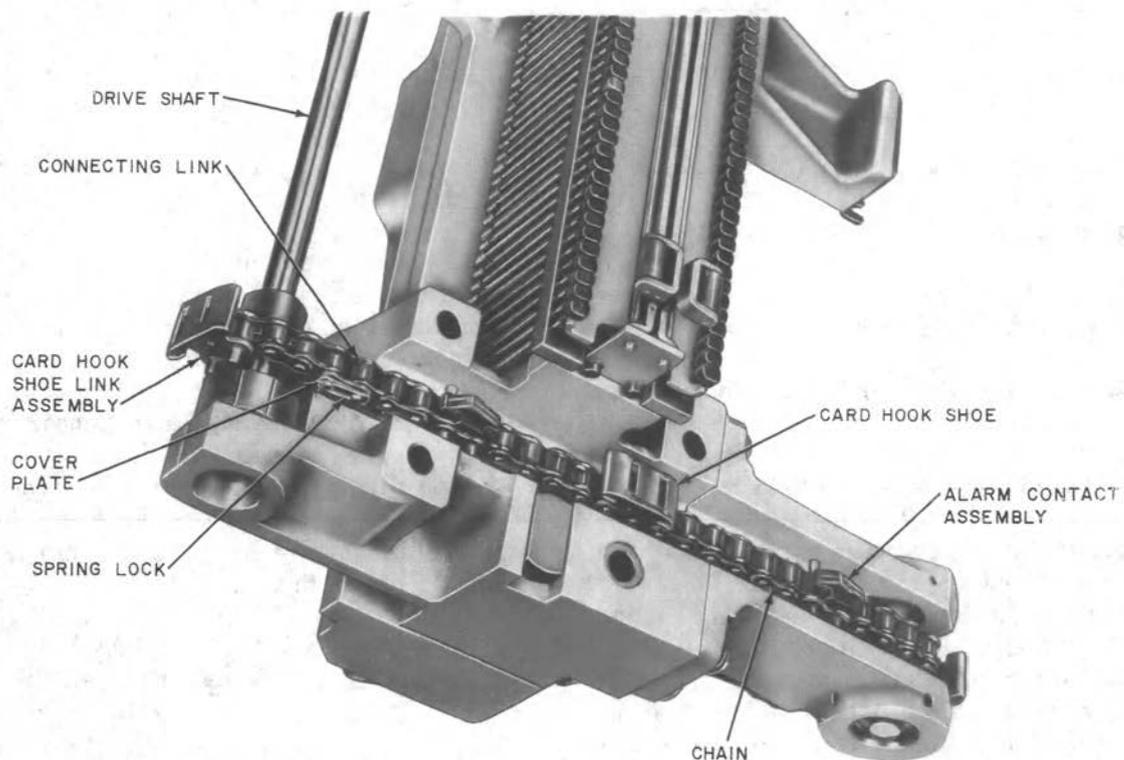

Fig. 49—Punch and Card Feed Assembly (Removed from Perforator)
- (1) Remove the punch and card feed assembly in accordance with 3.46.
- (2) Position the assembly on a bench so the chain associated with the card hook shoe link assembly to be replaced is easily accessible, as shown in Fig. 49.
- (3) Rotate the drive shaft, as required, to bring the connecting link assembly of the chain to the position shown in Fig. 49.
- (4) Spread the split end of the connecting link assembly spring lock using the R-1005 jewelers screwdriver.
- (5) Remove the link assembly from the pin adjacent to the split end.
- (6) Slide the spring lock toward the other pin and remove the spring lock.
- (7) Remove the cover plate from the link pins and remove the link.
- (8) Remove the chain from the punch and card feed assembly.
- (15) Select the end of the chain with an adjacent card hook shoe and feed the chain into the nearest end of the channel. Feed the chain through the channel around the sprockets and position the chain ends where they were located prior to connecting link assembly removal (Fig. 49).
- (16) Make sure the adjacent card hook shoe is in the same relative position as the corresponding hook shoe on the other chain.
- (17) Remount the connecting link, link cover plate, and spring lock.
- (18) Remount the punch and card feed assembly in accordance with 3.46.